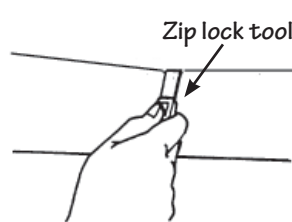

Figure 78.
- Use the unlocking tool again to zip the upper panel over the lock on the new panel (Fig. 78).